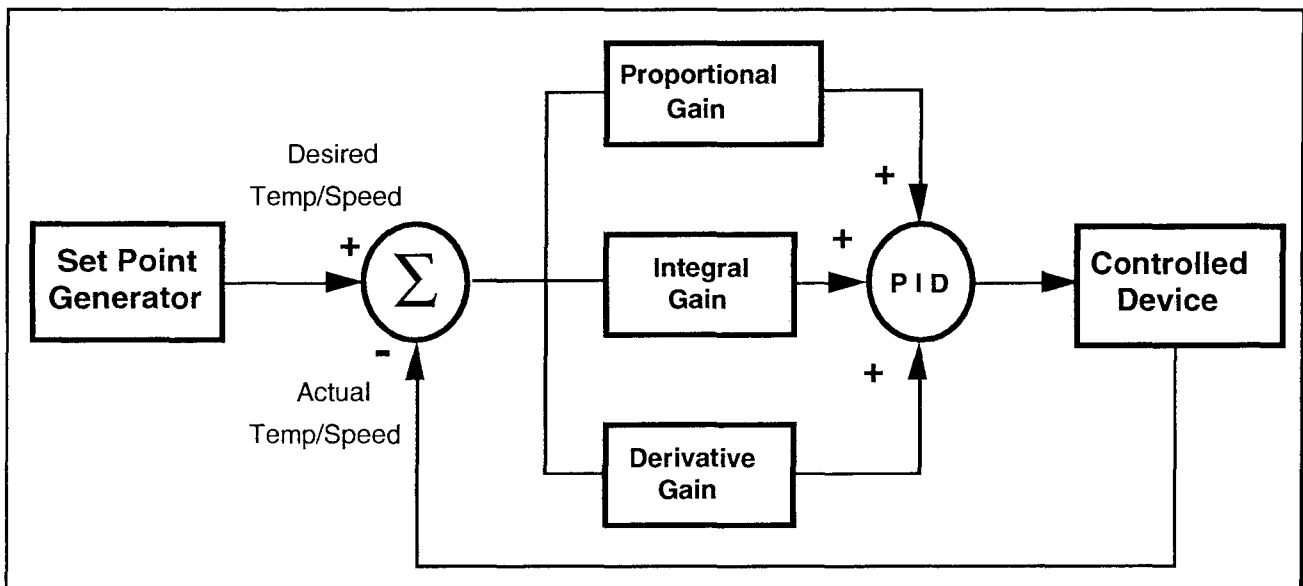

Figure 1 - PID Control Loop
Cee Equipment Spin/Coat modules and Hotplate modules use advanced technology controllers. These controllers allow a higher degree of precision in substrate processing. Some control systems try to get by with just a Proportional (P) or Proportional-Integral (PI) type of feedback loop. To maintain consistency and overcome the time lag inherent in real-time control, a more sophisticated system with some ability to predict system performance is necessary. This is achieved by adding the Derivative (D) type feedback loop to the Proportional-Integral (PI) loop, forming a PID feedback control loop (figure 1). This control loop performs with the precision necessary for today's complex process requirements.